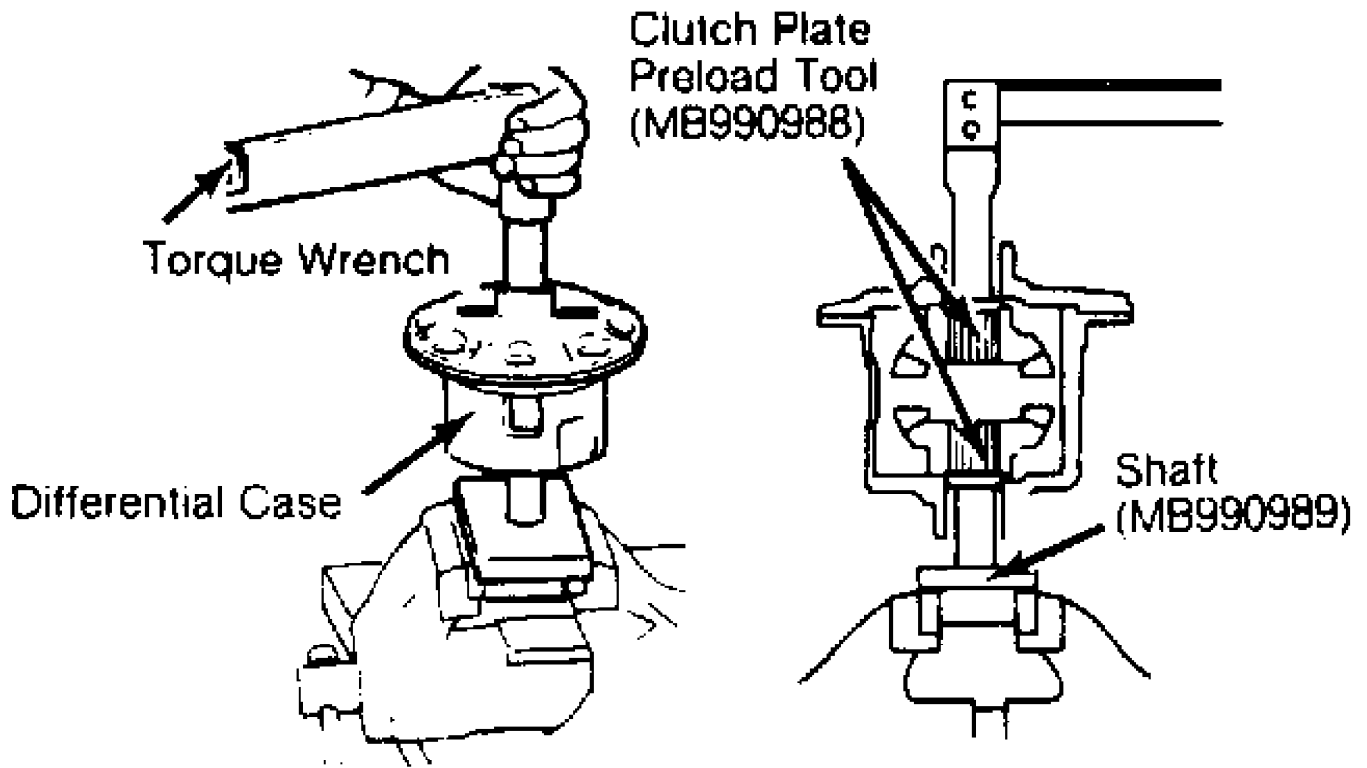

Fig. 10: Checking Differential Starting Torque
13) Using Clutch Plate Preload Tool (MB990988), Shaft (MB990989) and torque wrench, measure starting torque. Slightly rotate unit before measuring starting torque. See Fig. 10.
1) Install pinion bearing races in carrier. Ensure races are fully seated. Install pinion height gauge and pinion bearings. Use Pinion Height Gauge (MB990901) for all others. See Fig. 10. DO NOT install oil seal.